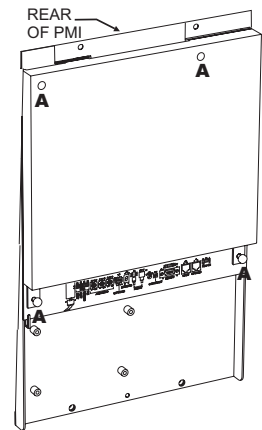

Figure 1
4. Remove the rear plastic cover from the PMI. It is held in place by four mounting screws. The location of the screws is marked A in Figure 1. Place the screws to one side.